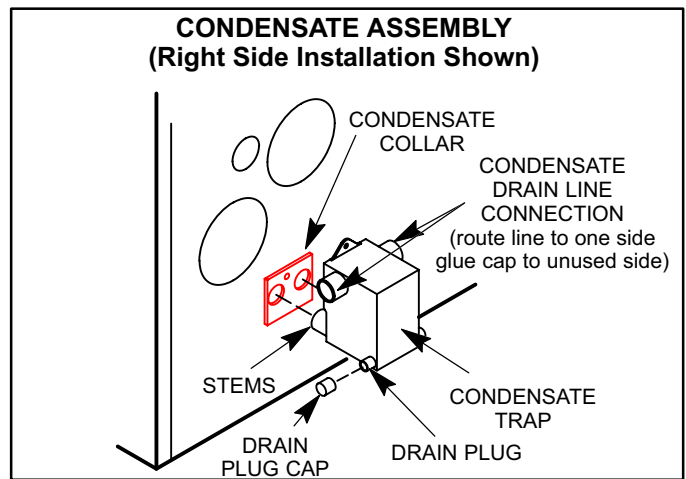

FIGURE 33
- 2 - Apply glue to condensate trap stems and insert trap into holes provided in condensate collar. Make sure condensate trap is completely sealed to avoid any leaks. Use the provided 1/2" screw to secure the top of the condensate trap to the side of the unit. See figure 33.